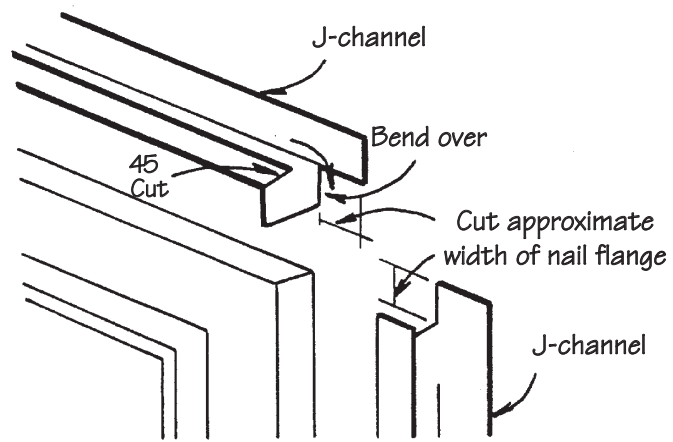

Figure 31.
- Miter cut the free flange at a 45° angle and bend the tab down to provide flashing over the side members (Fig. 31). A similar miter and tab may be provided at the bottom of the window, depending on the sill's condition. The J-channel should fit snug to the window.